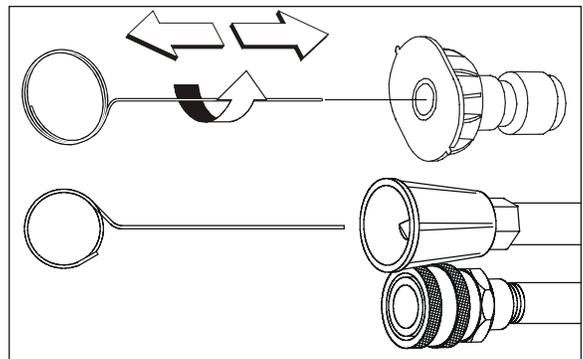

Figure 20 - Use Wire to Remove Debris
- c. Use the wire included in the kit or a small paper clip (Figure 20) to free any foreign material clogging or restricting all quick disconnect nozzles and the dual nozzle extension chemical nozzle.